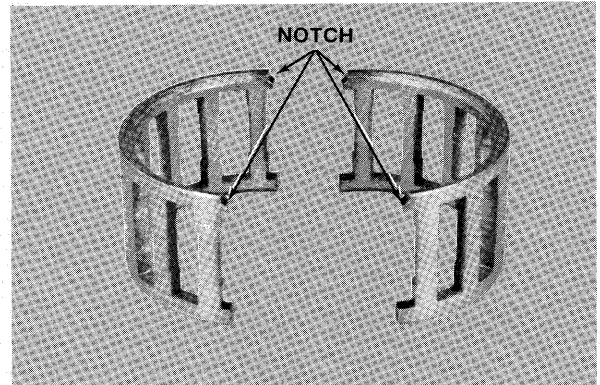

Figure 10—Crank Pin Needle Bearing Cage
- H. Examine crank pin needle bearing cages. Note that each cage is notched on one (1) side as shown in figure 10. Notched side is always toward upper main bearing.